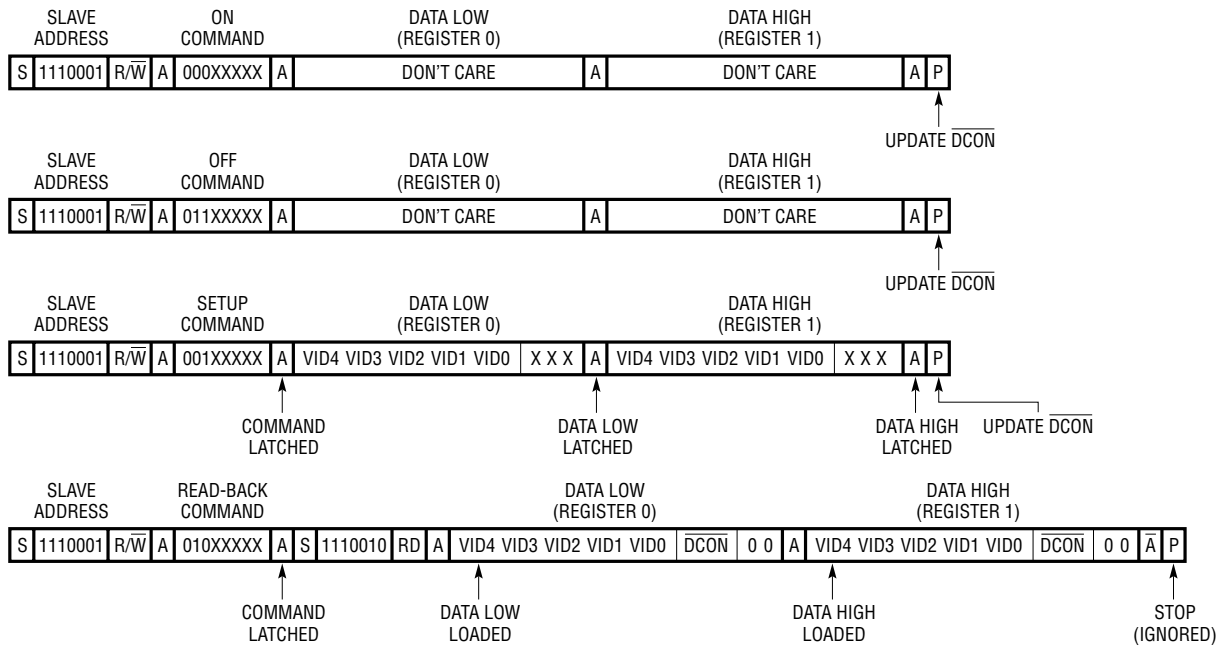

Figure 2. Write Word and Read Word Protocols
The TTL compatible VRON input pin and the output of the internal on/off state machine (SMBON) control the state of the CPU_ON, IO_ON, CLK_ON and PGOOD pins. SMBON is accessed using SMBus protocols and must be programmed to a high state before the converters can turn on. The SMBus protocols (see Figure 2) incorporate safeguards against errors caused by bus conflicts.
The Write Word and Read Word protocols (Figure 2) share three common features. First, the 7-bit slave address for both protocols is internally hardwired to 1110001B = E2H. A single R/W bit follows the slave address. This bit is low for data transfer from the microprocessor to the LTC1699-80, LTC1699-81 or LTC1699-82 and high for transfers in the opposite direction.
Each Write Word protocol (Figure 2) begins with a start bit (S) and ends with a stop bit (P). As shown in the Timing Diagram the start and stop bits are defined as high to low and low to high transitions respectively, while SCL is high. In between the start and stop bits, the microprocessor transmits four bytes to the LTC1699-80, LTC1699-81 or LTC1699-82. These are the address byte, an 8-bit command code and two data bytes. The LTC1699-80, LTC1699-81 and LTC1699-82 sample each bit at the rising edges of the SCL clock.